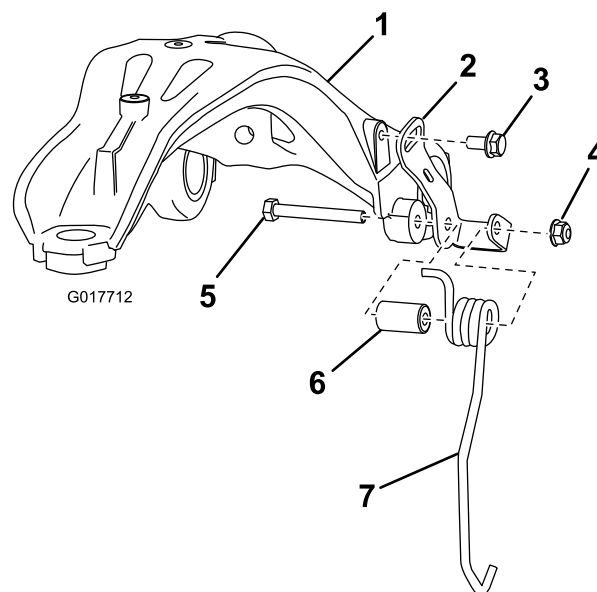

Figure 1
4. Install the new left- and right-hand spring and retainer assemblies onto the suspension arm as shown in Figure 1.